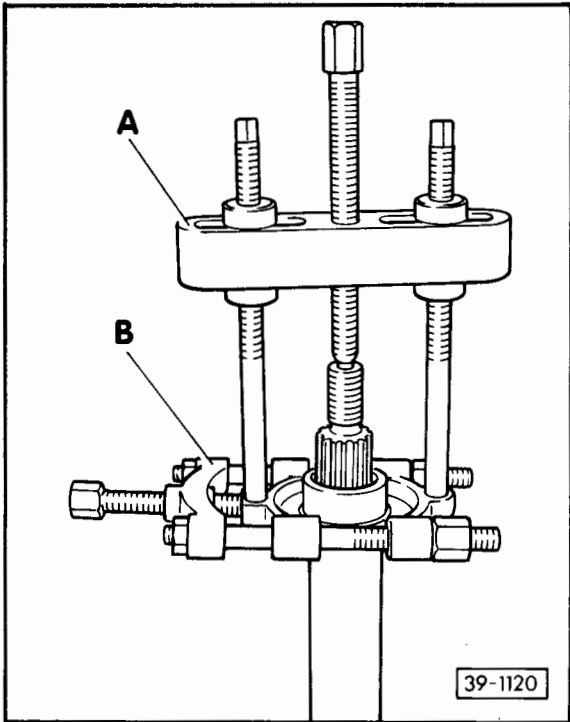

Fig. 1 Removing washer and inner race of cylindrical roller bearing
- Removing – Fig. 1
- o Fig. 1
◄ Fig. 1 - Previous dimension of flange